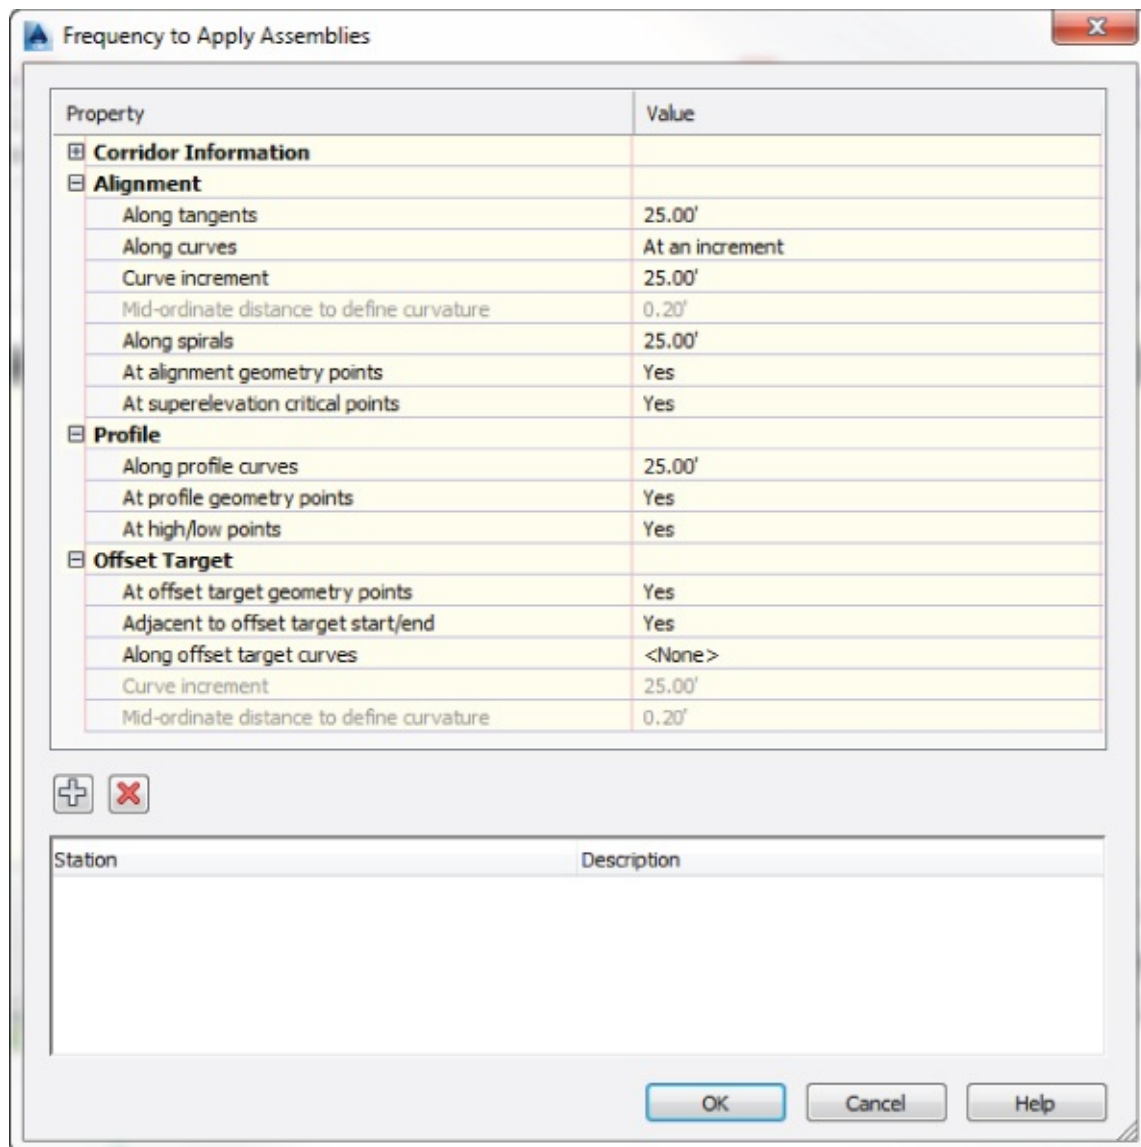

Figure 9.8 The Frequency To Apply Assemblies dialog
- Examine the settings in the Frequency To Apply Assemblies dialog, as shown in Figure 9.8.